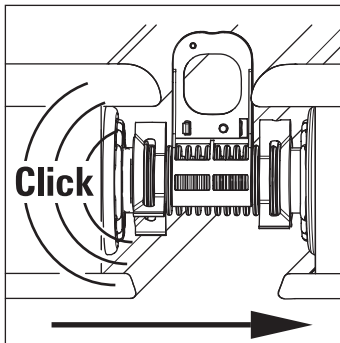

Fig. 3-26 Sliding the flat solar panels together
8. Slide the next flat solar panel further up to the stop against the last mounted flat solar panel (Fig 3-26). You should be able to hear the retaining clamps click in place. The distance between the flat solar panels is determined automatically by the length of the expansion joints with mounting supports fitted.